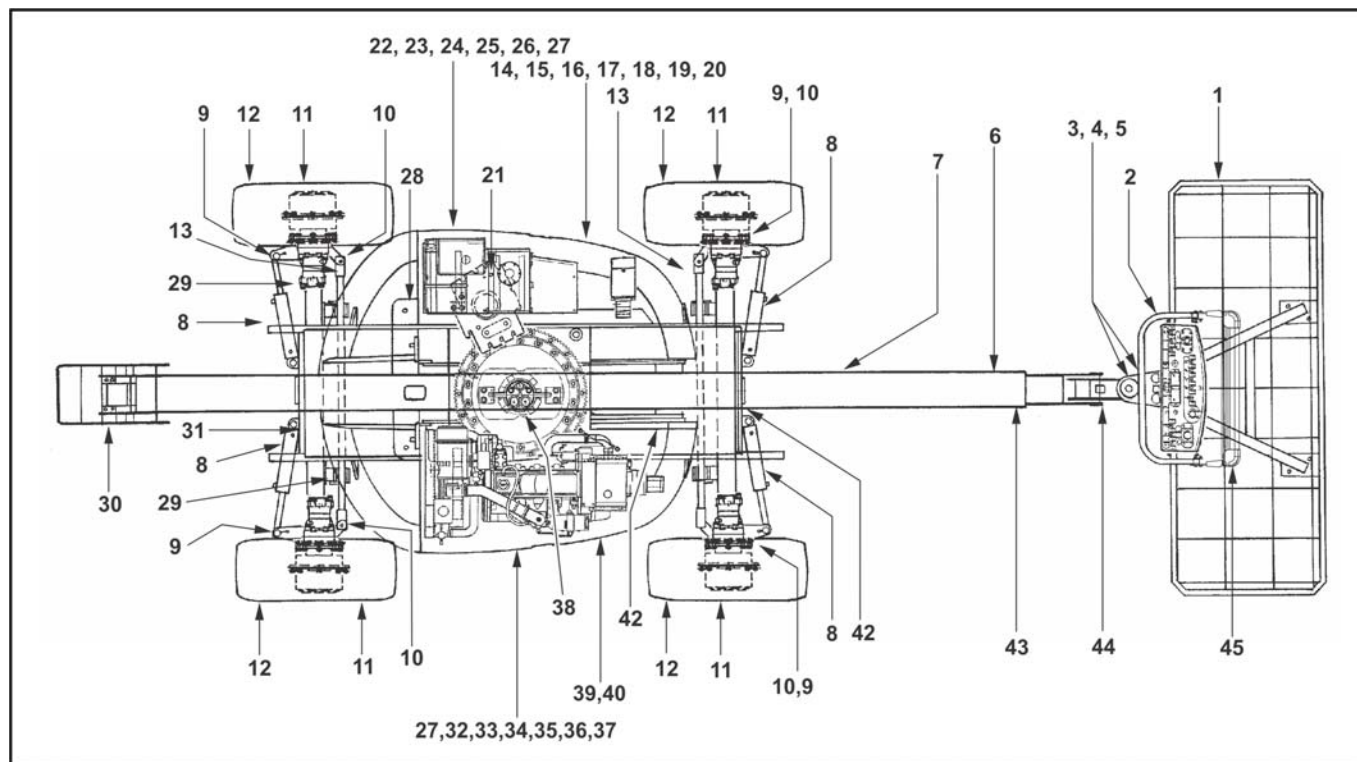

Figure 2-3. Daily Walk-Around Inspection Diagram
5. **“Walk-Around” Inspection** – Refer to Figure 2-3.